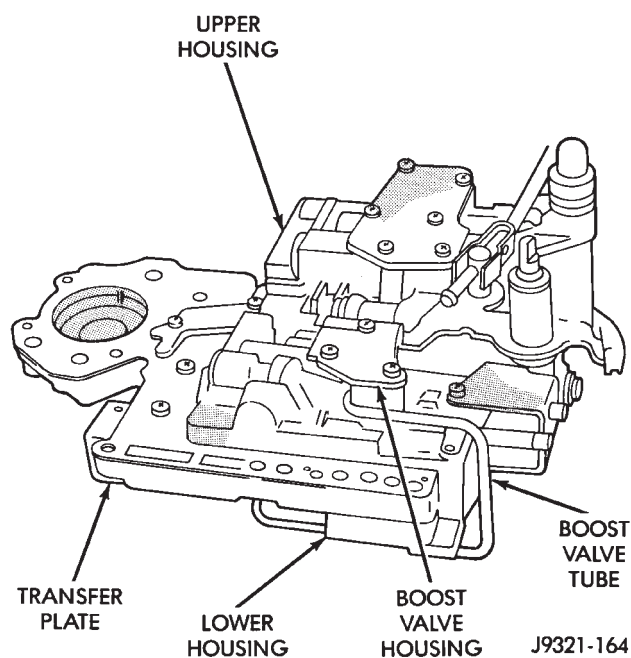

Fig. 14 Valve Body-46RH
- (6) Position drain pan under transmission oil pan.
- (7) Remove transmission oil pan and gasket.
- (8) Remove fluid filter from valve body.
- (9) Push valve body solenoid wire connector out of case.
- (10) Remove valve body attaching bolts.
- (11) Lower valve body slightly and remove accumulator piston and accumulator inner and outer springs.
- (12) Push manual lever shaft and solenoid case connector out of transmission case. Lower valve body, rotate it away from case, pull park rod out of sprag and remove valve body (Fig. 14).
(1) Verify that park/neutral position switch has NOT been installed in case. Valve body cannot be installed if switch is in place.
(2) Check condition of seals on valve body solenoid case connector (Fig. 14). Replace seals if cut or worn.
(3) Check condition of manual lever shaft seal (in case). Remove seal if lip is cut, or worn. However do not install new seal at this time.